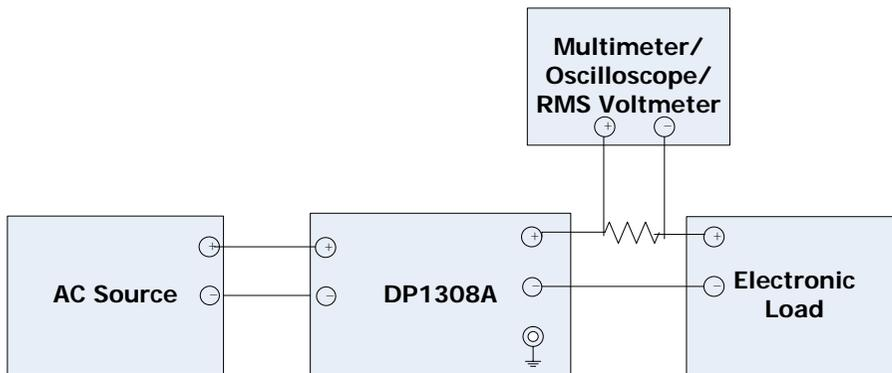

Figure 3-1 Test connection (CC)
1. Turn off DP1308A. Connect DP1308A, AC source and multimeter according to Figure 3-1.
1. Turn off DP1308A. Connect DP1308A, AC source, current monitoring resistor, electronic load and multimeter according to Figure 3-1. Note that 0.1Ω 4-wire current monitoring resistor should be used and the multimeter should be connected to the voltage measurement terminal of the current monitoring resistor (as shown in the figure below, C represents the current measurement terminals and S represents the voltage measurement terminals).
1. Turn off DP1308A. Connect DP1308A, AC source, current monitoring resistor, electronic load and multimeter according to Figure 3-1. Note that the measurement probe or clip of the multimeter must be connected to **A** in Figure 2-2.
1. Turn off DP1308A. Connect DP1308A and AC source according to Figure 3-1. Note that in order to eliminate the noise introduced by the electronic load, use resistive load (1.2Ω for +6V/5A channel; 25Ω for +25V/1A and -25V/1A channels) to replace the electronic load in Figure 3-1. Then connect the RMS voltmeter across the resistive load.